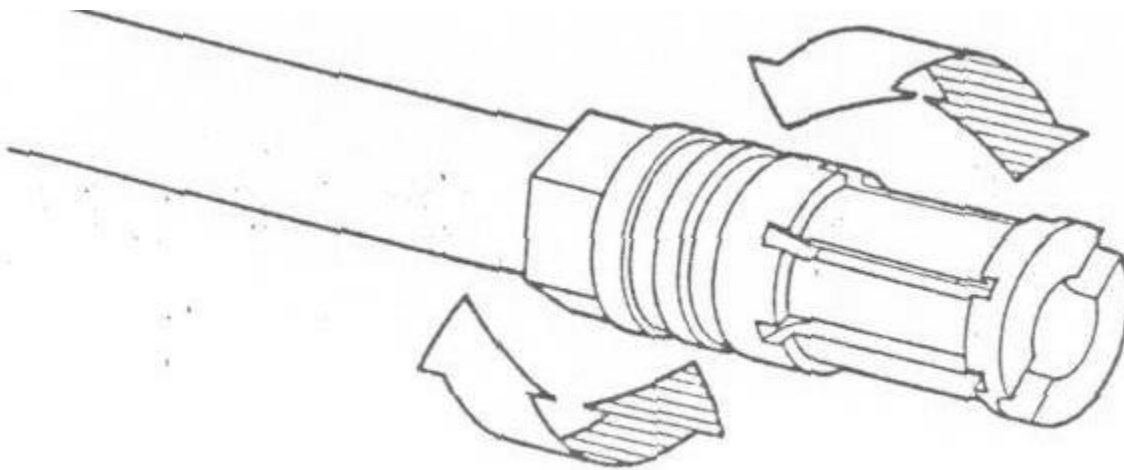

FIGURE 11
2. After ascertaining the direction of muzzle flip by firing, clear the rifle and allow the muzzle brake/flash suppressor to cool. Using the proper size wrench, loosen the muzzle brake/flash suppressor nut. Rotate the muzzle brake/flash suppressor to the desired angle and retighten the muzzle brake/flash suppressor nut. **DO NOT OVERTIGHTEN**. Repeat as necessary until the desired results are achieved. (See Figure 11).